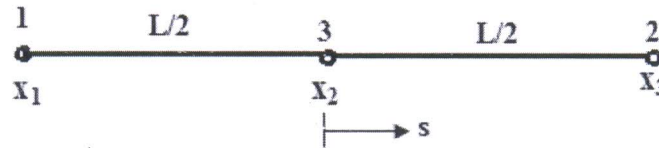

Figure 6b
- b) For the three-noded iso-parametric bar element shown in Figure 6b, show that the Jacobean determinate is $|J| = L/2$. Also determine the shape functions $N1 - N3$ and the strain-displacement matrix $[B]$. Assume the displacement field as $u = a1 + a2s + a3s^2$. [10]